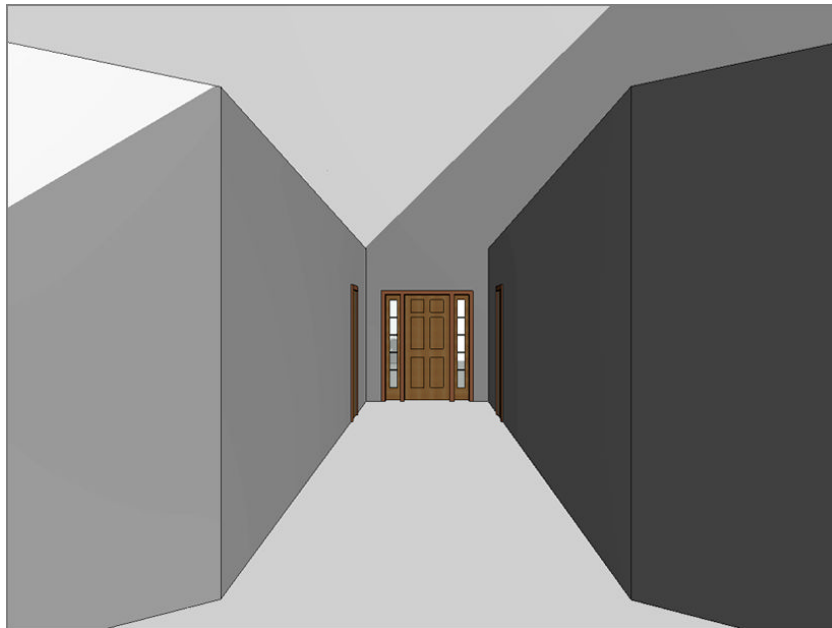

FIGURE 3.71: The perspective view down the east wing corridor
4. The second point you pick will specify how far the camera reaches into the building. Pick a point past the corridor doors, as shown in Figure 3.71.